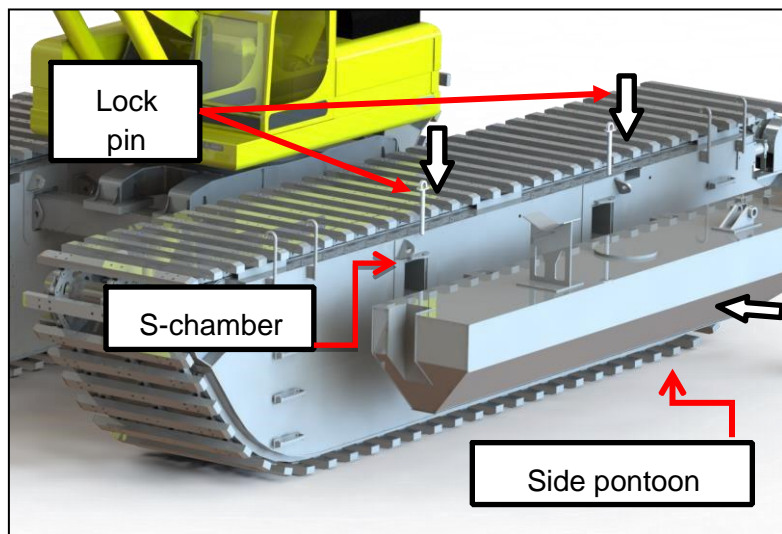

Figure 6.10
3. Lock the side pontoon by inserting the locking pin as shown in Figure 6.10.